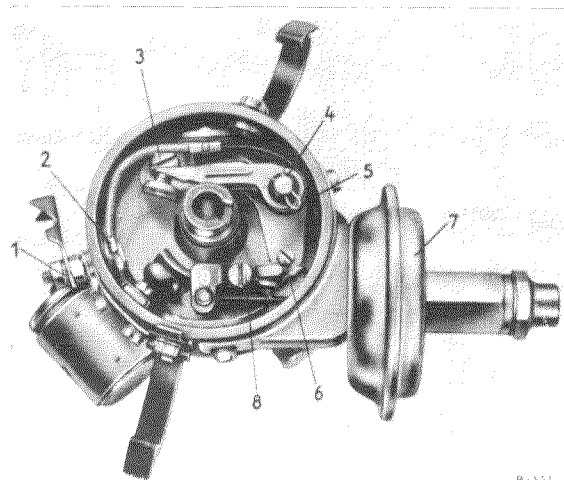

Fig. 15 — 23/3
3. Slacken the terminal nut (1) of terminal 1, slacken the lock nut and pull out the cable (2) to the contact breaker lever (Fig. 15—23/3).
4. Remove the lockwire (5) at the pivot pin for the contact breaker lever and also the washer (4).
5. Unscrew the fixing screw (3) for the contact holder.
6. Unscrew the cheese-head screw (8), paying attention to the lock washer.
2. Unscrew the cheese-head screw (8) (see Fig. 15 — 23/3), paying attention to the lock washer.
3. Take out the angle bracket (9) with bolt (see Fig. 15 — 23/3).
Note: When screwing in the cheese-head screw (8), do not forget the ground cable from the automatic vacuum control and the lock washer (see Fig. 15 — 23/3).